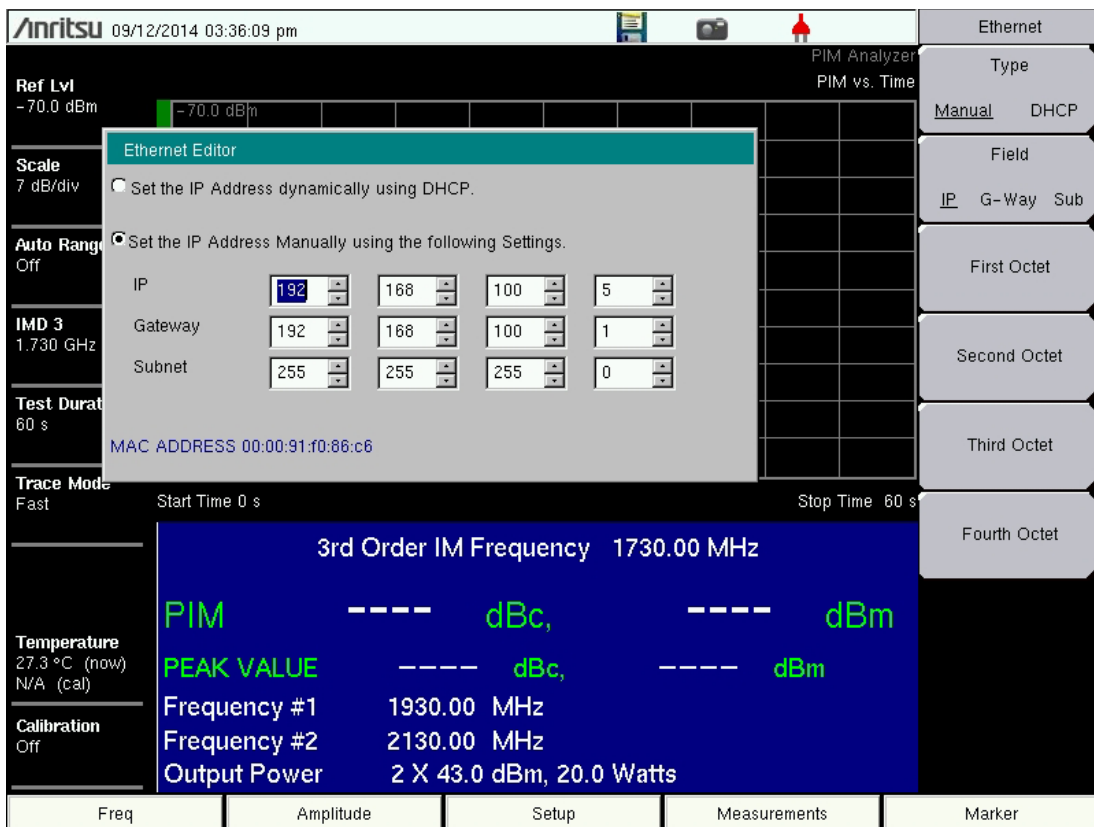

Figure C-3. Example of Entering Ethernet IP Address
1. Press **Shift** and **System (8)** to display the System Menu.
3. Configure the Ethernet connection. The example IP address is 192.168.100.5 in Figure C-3.
Figure C-3 is an example of the Ethernet Editor. Your information might be different. For example, 255.255.255.0 should be the subnet mask.